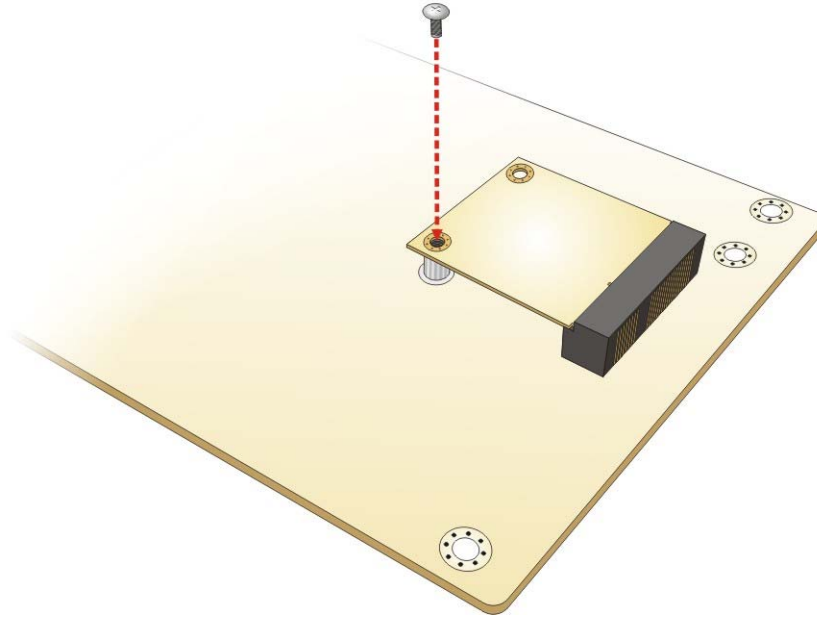

Figure 4-4: Securing the iRIS-1010 Module
Step 4: Secure the iRIS-1010 module. Secure the iRIS-1010 module with the retention screw previously removed (**Figure 4-4**).